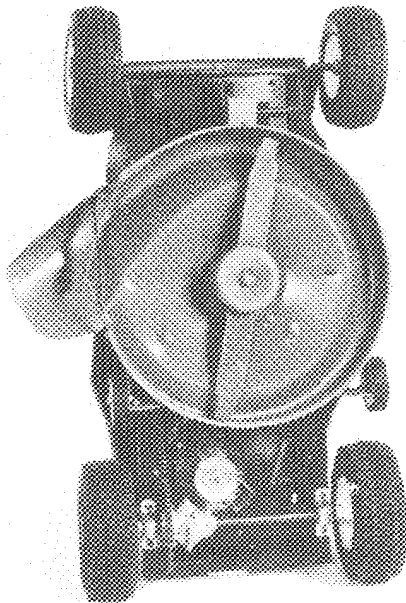

Figure 31
8. Tip rider onto its rear end (Fig. 31).